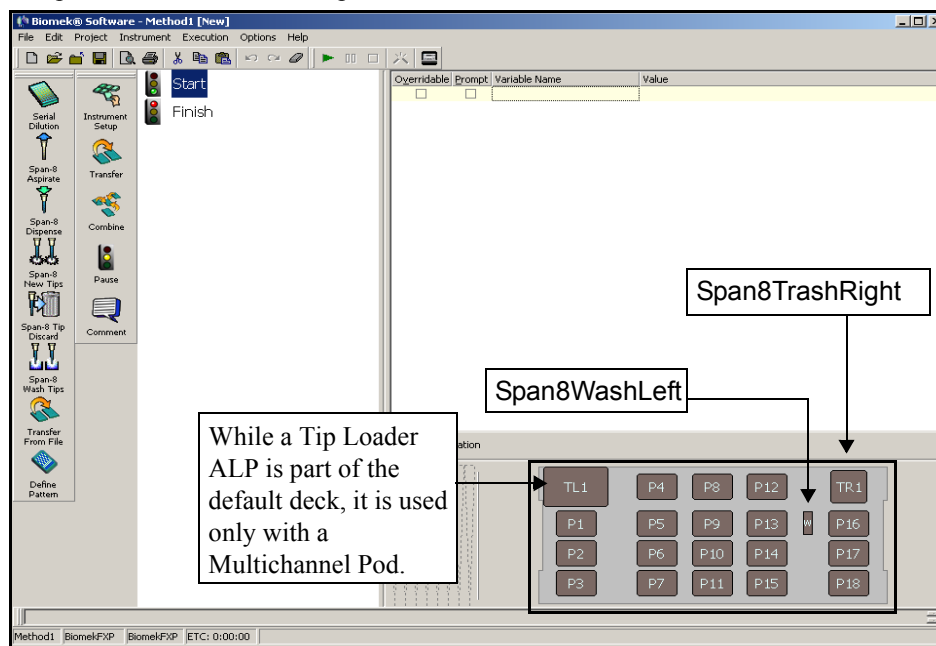

Figure 5-4. Current deck for this tutorial
To avoid hardware crashes, it's important that the deck in Biomek Software matches the physical deck of your instrument. If you wish to run these tutorial methods on hardware rather than in simulation and your deck varies from what is shown, you may have to modify the methods to work with your hardware (Figure 5-4).
1. View the current software deck (Figure 5-4).
To add a Span-8 Wash ALP to your deck, choose **Instrument>Deck Editor**. The current deck appears. Then from **All**, highlight **Span8Wash Left** and drag it to the proper position. To add a Span-8 Disposal ALP, highlight **Span8Trash Right** and drag it to the proper position. You may have to delete other ALPs from the deck before you add these. Then choose **Renumber** to ensure your deck matches the deck on Figure 5-4.